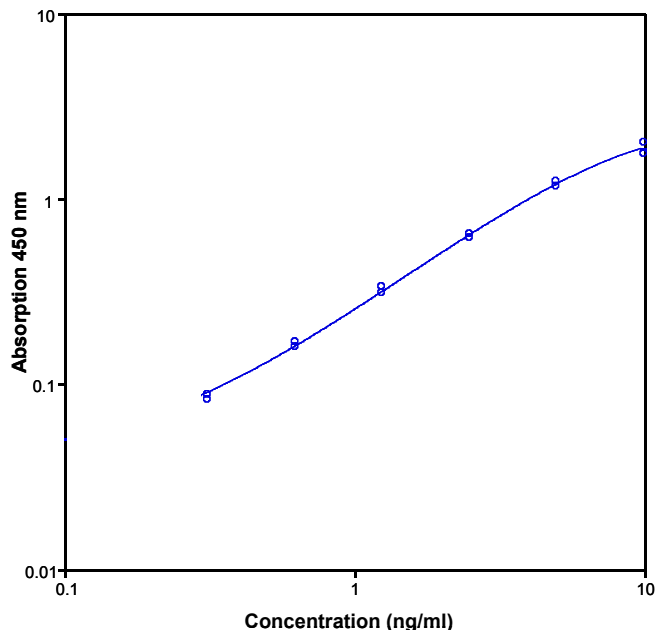

Fig. 7 Representative standard curve for human CD44var (v6) ELISA. Human CD44var (v6) was diluted in serial 2-fold steps in Sample Diluent.
- A representative standard curve is shown in Figure 7.